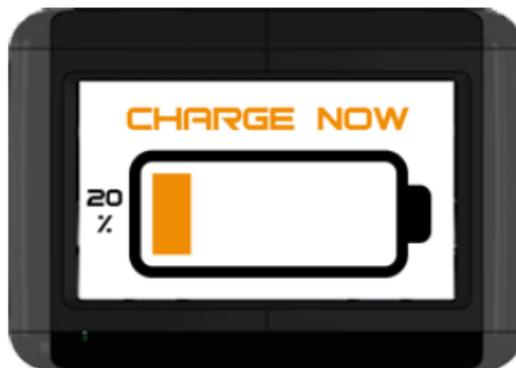

Figure 21: BDI Screen displaying ORANGE and CHARGE NOW.
- b. **ORANGE and CHARGE NOW** (Figure 21): Battery SOC at 11-20%. Connect to a charger as soon as possible.